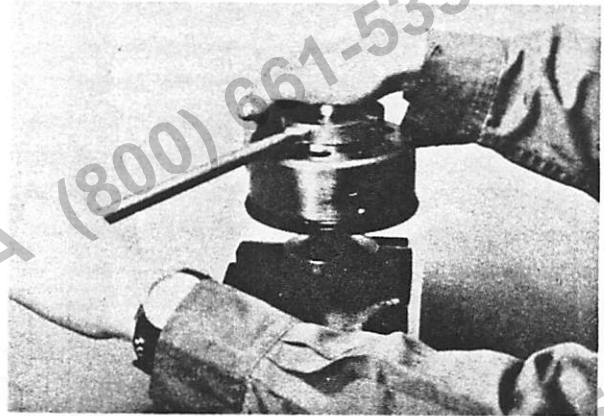

Fig. 4-76 Removing the flange
2. Use wrench, turn it slightly counterclockwise, and remove the driving flange. (Refer to **Fig. 4-76**). The remaining parts can be easily disassembled.